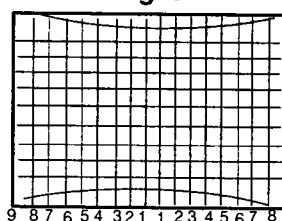

Fig. 55
13. Adjust with the Horizontal size (R535) on the D-Board so that the seventh vertical line from the center is hided behind the screen frame **Fig. 55**.